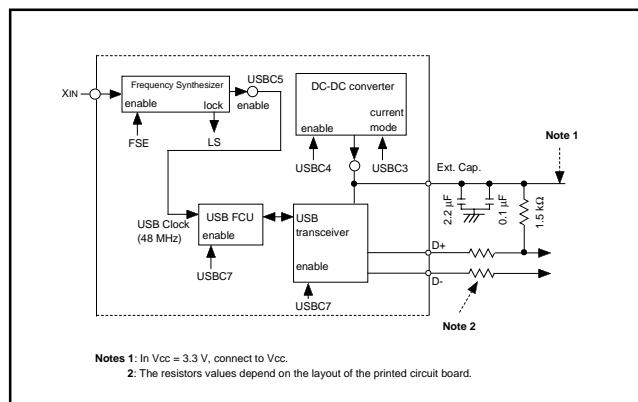

Fig.125 Peripheral circuit
- Connect a capacitor between the Ext. Cap. pin and the Vss pin. The capacitor should have a $2.2\ \mu F$ capacitor (Tantalum capacitor) and a $0.1\ \mu F$ capacitor (ceramic capacitor) connected in parallel. Figure 125 for the proper positions of the peripheral components.